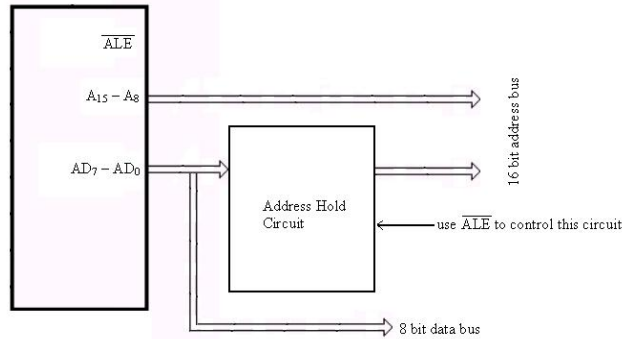

Figure 7: Demultiplexing the Address and Data bus on the 8085.
- h) In the 8085 microprocessor Pins A_{15} - A_8 and AD_7 - AD_0 are used as the 16-bit address bus and Pins AD_7 - AD_0 are used as the data bus. Initially, the pins carry the address of the memory to be accessed. Later on, the lower order pins act as the data bus. This would lead us to the architecture shown in figure 7. You need to design the “address hold” circuit. Use the ALE (Address Latch Enable) pin to guide the de-multiplexing i.e. show how the ALE might be used by the “address hold” circuit. [Hint: a hold circuit obviously involves a memory element since it can remember the address bits on the AD_7 - AD_0 pins long after they cease to exist. Pins AD_7 - AD_0 act as data bus once the addressing function is done].